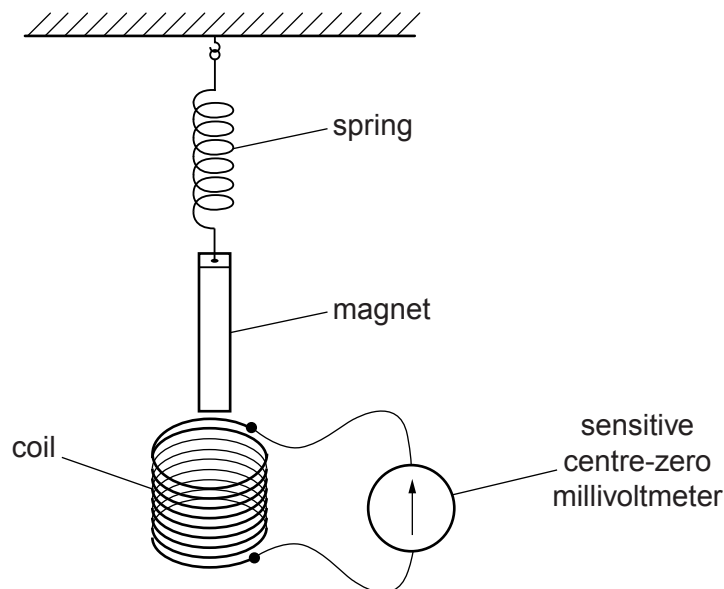

Fig. 8.1
- 1 (a) Fig. 8.1 shows a bar magnet suspended by a spring over a coil. The coil is connected to a sensitive centre-zero millivoltmeter.